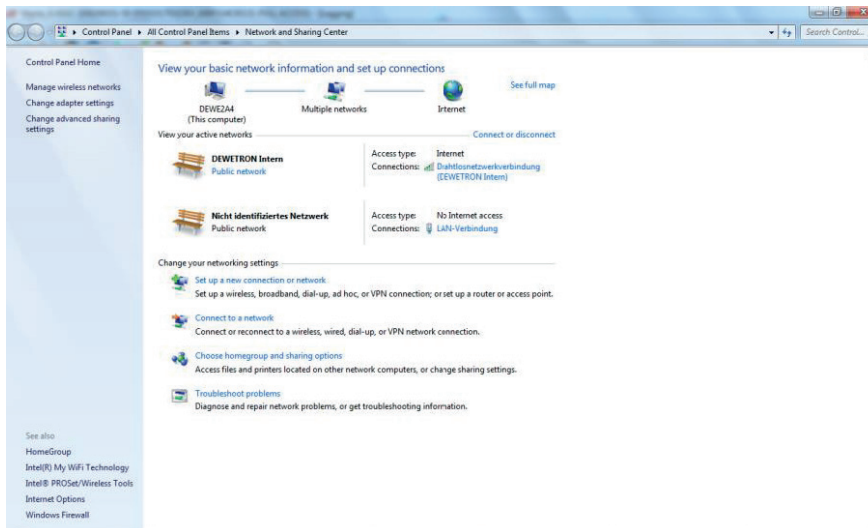

Fig. 6: *Windows Network and Sharing Center*
1. Go to the *Windows Network and Sharing Center* (Fig. 6).